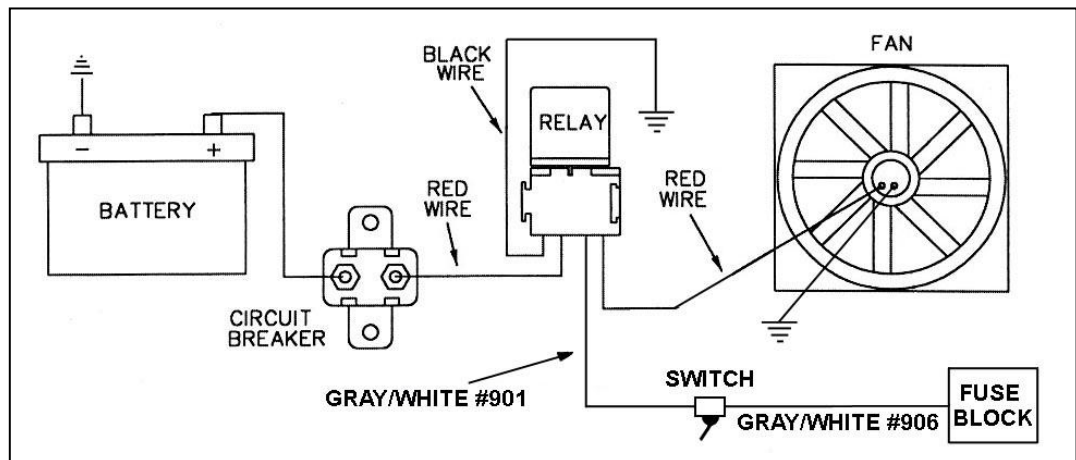

Figure 10-4 Typical Fan Relay Installation (**Fan Relay Kit - Painless Part #30101**)
- 10.4.4 Connect HEADLIGHT SECTION A wire #901 (gry/wht) to the Electric Fan Relay. This wire is an activation wire for the relay, **NOT A POWER FEED**. The other end of wire #901 is in the ACCESSORY SECTION SWITCHES and should be connected to the electric fan switch in the dash. **Figure 10-4** shows a typical fan relay installation.